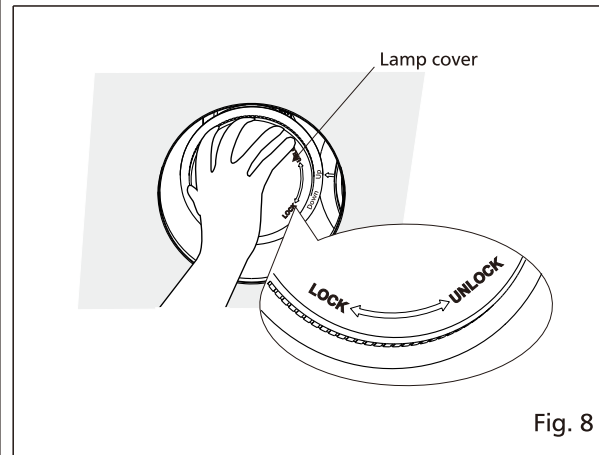

Fig. 8
11. Unlock the lamp cover.(Fig.8)
2. Unlock the lamp cover. (Fig. 8 of page 8)